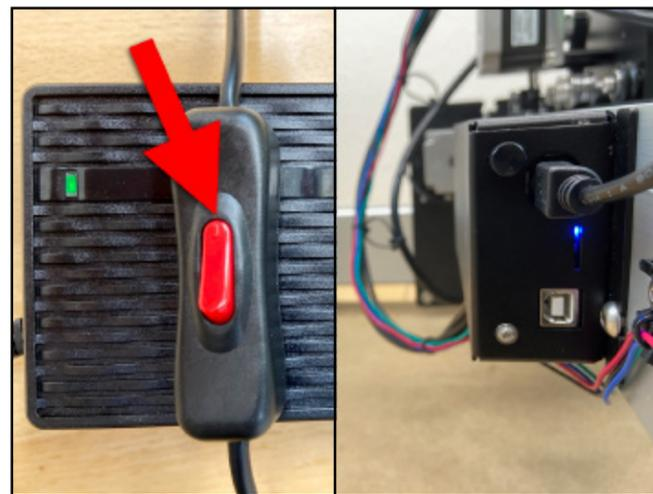

Figure 10-2
2. Connect the power supply to the power port on the rear of the Carbide Motion board as shown in **Figure 10-2**.
3. Plug power cord into an outlet. A green LED on the power supply will light up when connected to power. See **Figure 10-2**.
4. Flip the in-line rocker switch on the power supply to the ON position. You will hear the motors begin to hum and a blue LED on the Carbide Motion board will be visible through a slit in the enclosure cover. See **Figure 10-2**.